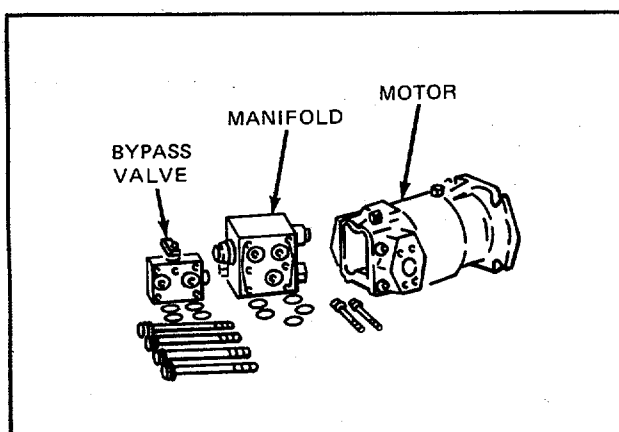

Figure 29.
4. Grasp manifold to prevent it from dropping and remove remaining two mounting bolts (refer to Fig. 29).